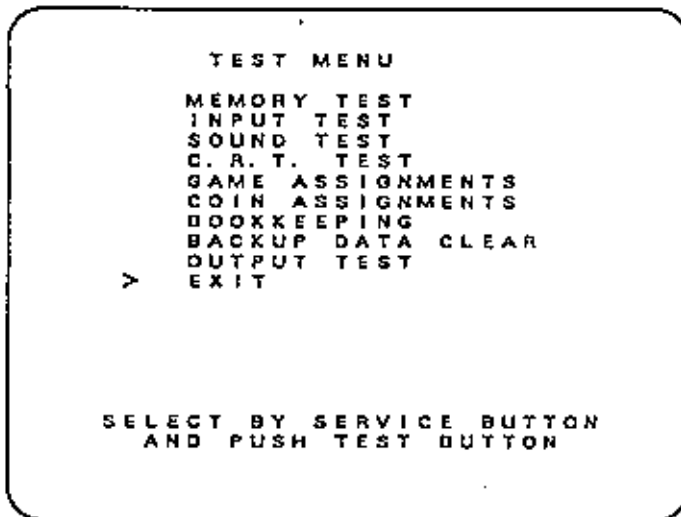

FIG. 8.2 TEST MENU
- Pressing the TEST button displays the test menu (FIG. 8.2).